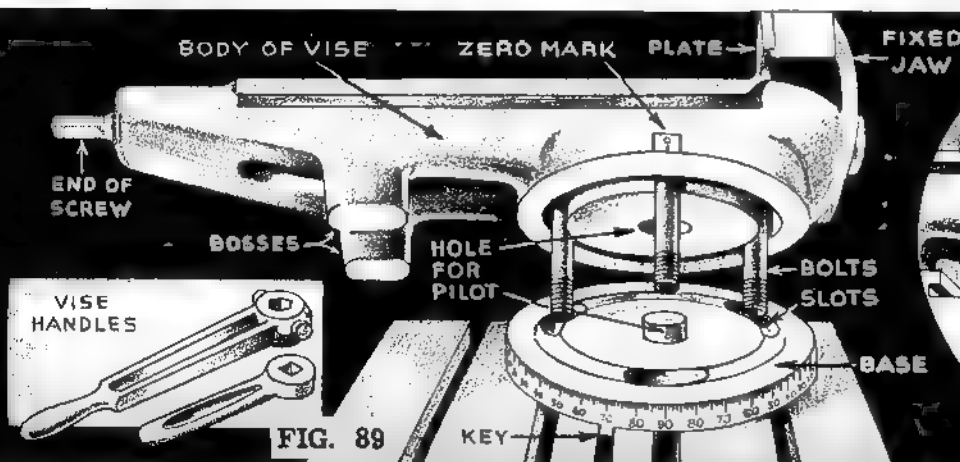
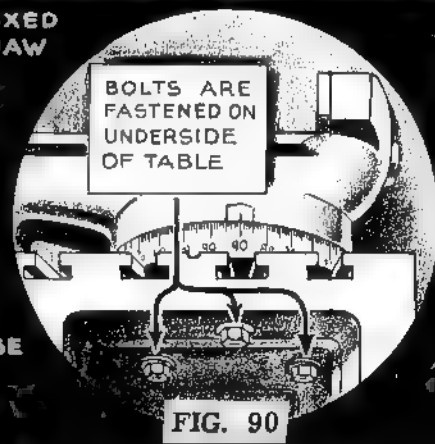
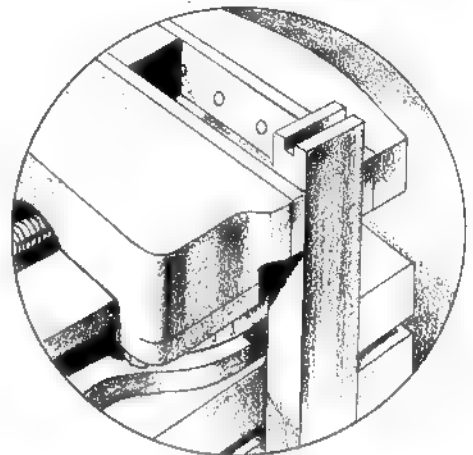

FIG. 89
FIG. 90
FIG. 94
The bases of the vises (Figs. 89, 91, and 92) are bolted to the table by either three or four bolts. The number of bolts used depend on the design of the base. The base is graduated through an arc of 180° with a zero (0) position on the left side, a zero (0) position on the right side, and with a 90° mark in the front, midway between the two zero marks (Fig. 89). On the underside of the base are provided square keys which fit into the table slots and which square the base on the shaper table.
The body of the vise is a semi-steel casting which fits on the base of the vise (Fig. 89). The heads of the bolts, which are free to slide, are held in a circular groove in the underside of the body. When the vise is being assembled, the bolts pass through holes in the base and holes in the table as shown in Fig. 90. Washers and nuts are placed on the bolts which extend into the openings and, when tightened, secure the vise and base to the table. When the nuts have been loosened, the vise can be swiveled to form any angle with the direction of the stroke. The pilot in the base provides a central point about which the body of the vise swivels (Fig. 89).
The vise (Fig. 89) has bosses which are cast on the underside of the vise body. The bosses provide additional support when wide pieces are held between the jaws or when the vise is used with the jaws at right angles (90°) to the direction of the cut. When the vise is in this position and the work is held vertically, the jaws should be offset to permit the ends of bars to be machined (Fig. 94).